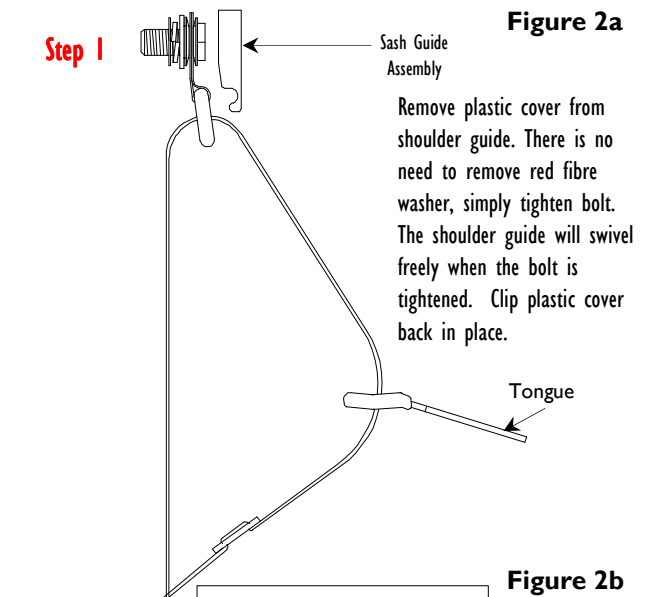

Figure 2a
- Assemble the tongue half as shown in figure 2a. Attach the Sash Guide Assembly first (step 1) followed by the anchor plate and spacer (step 2) and finally the ELR and bolt (step 3).